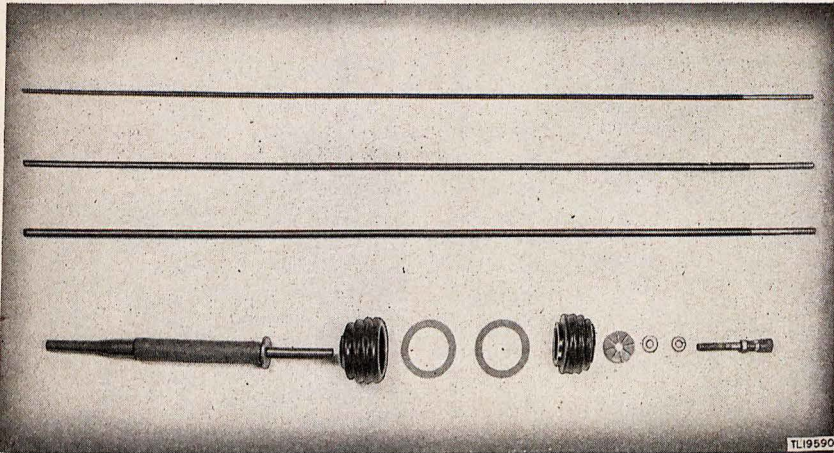

Figure 11. Mast Base MP-65-() and Mast Sections MS-116, MS-117, and MS-118.
h. MAST SECTIONS MS-116 TO MS-118 (fig. 11). These sections, made of flexible steel, are all 38 inches in length. Several MS-116 sections can be used to increase the antenna length. These mast sections are used only with Mast Base MP-65-().